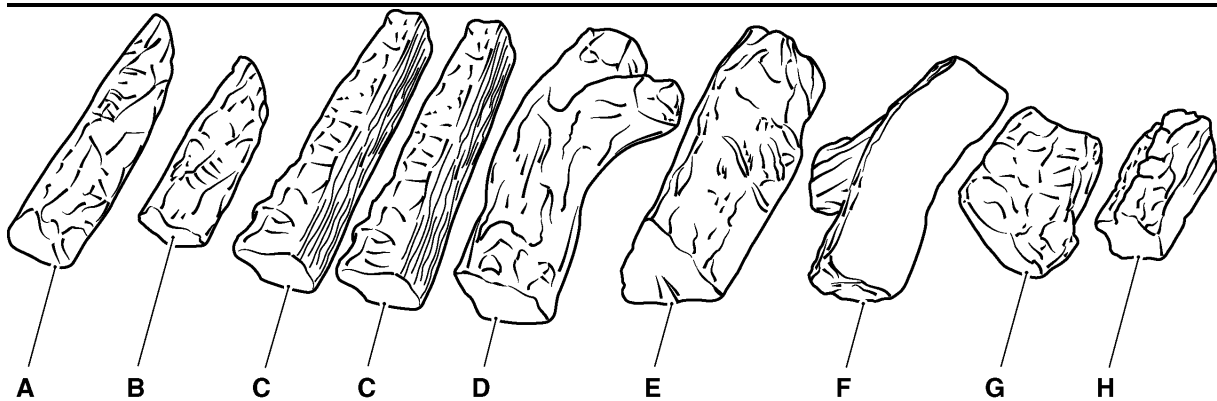

Figure 10 Log identification
- Identify the logs. See figure 10